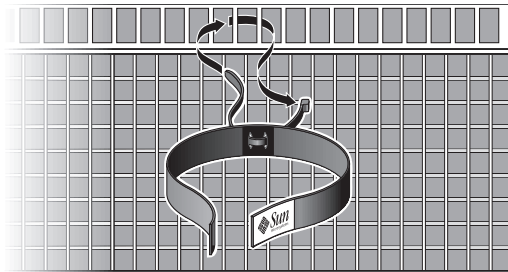

FIGURE 1-1 Black Cable Hanger Strap With Tie Wrap at Air Plenum
2. Secure the black cable hanger strap with tie wrap (No. 3) to the cutouts of the air plenum using the tie wrap (FIGURE 1-1)